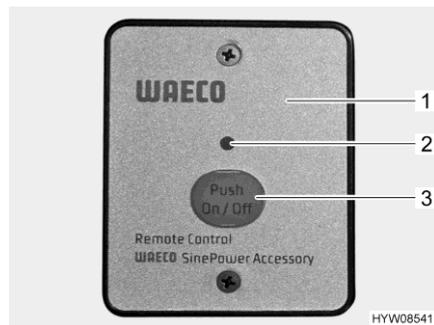

Fig. 96 External switch (AC converter)
The external switch (Fig. 96,1) is installed in a wall-mounted cupboard on the left side.
- Press "On/Off" button (Fig. 96,3). The LED (Fig. 96,2) is on.
- Press "On/Off" button (Fig. 96,3). The LED (Fig. 96,2) goes out.